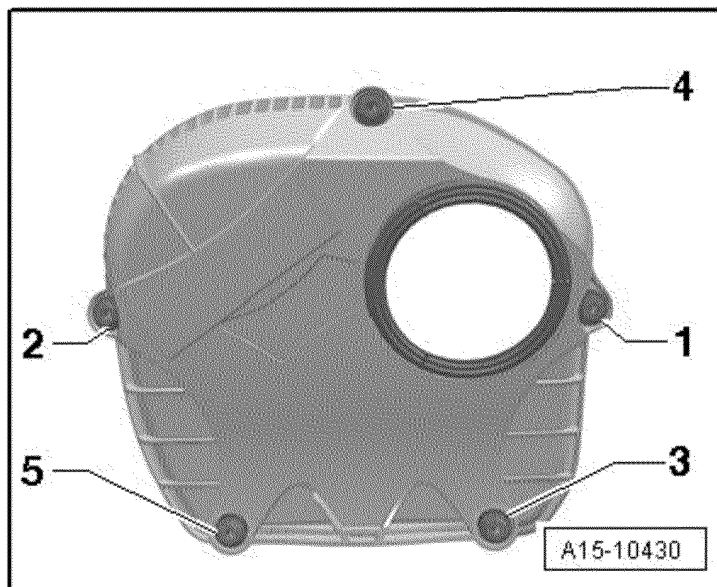

Figure 4. Bolts.
5. Unscrew bolts in order (Figure 4, 1-5) and remove timing chain cover.